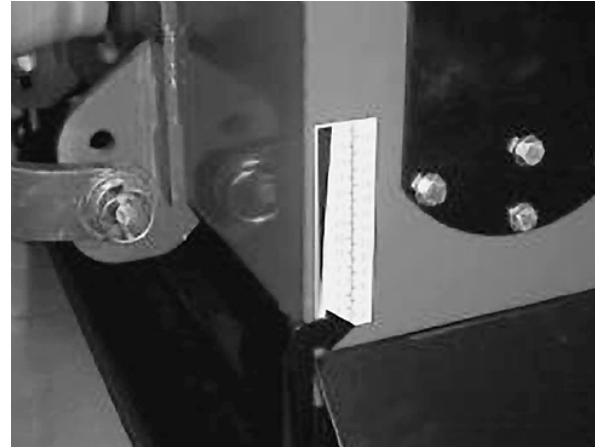

Figure 19
3. Depth guides (Fig. 19) are provided with numbers 1 through 27. Depth varies with the mounted angle of aerator, tine type and amount of tine wear. Refer to the *Depth Chart*. Tine depth between two numbers is approximately 0.20 inches (5 mm). The higher the number, the deeper the tine penetration. Always adjust each side to the same number.